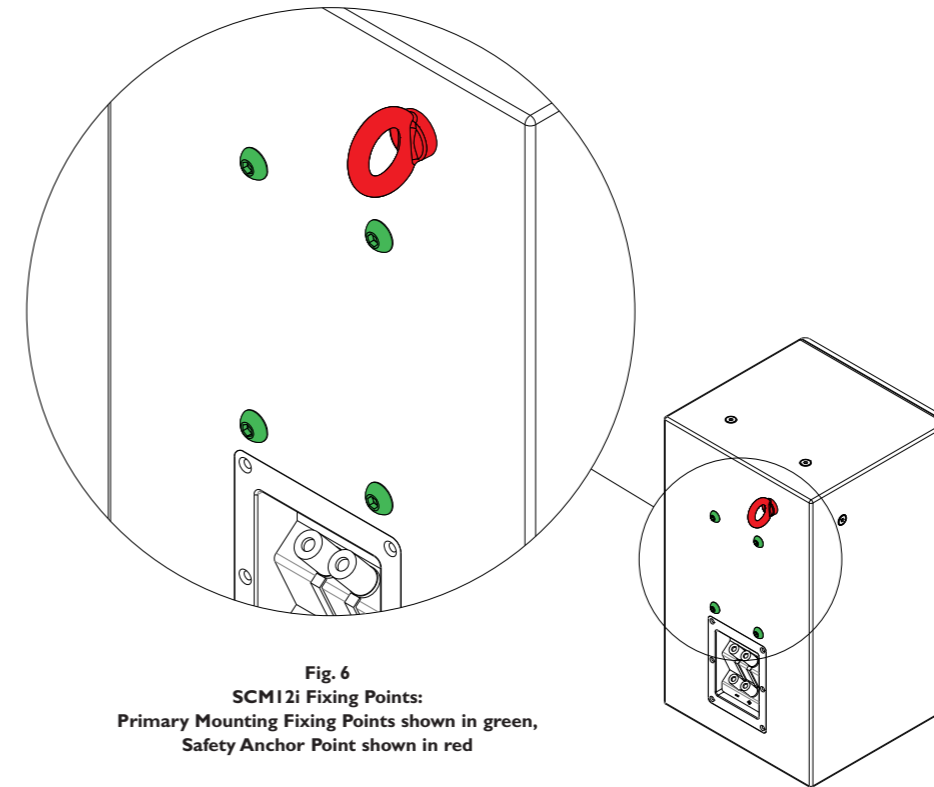

Fig. 6
- The SCM12i is fitted with a safety anchor point, in the form of a single M8 eyebolt situated at the top rear corner as illustrated in **Fig.6**.